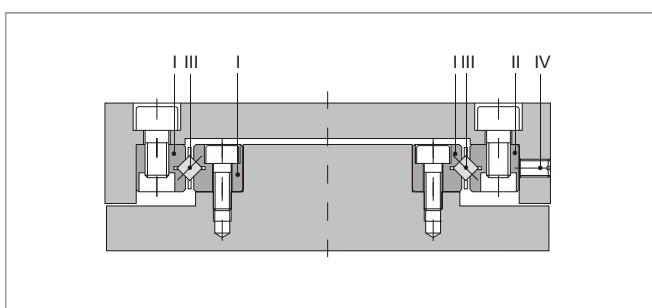

Figure 2
- During assembly, press the longitudinal guides, Figure 2 (I) against the bearing surface and tighten the fastening screws. Next, check the parallelity of the rails (I). In this case, the tolerance of the dimensions A and B, Figure 3, must not exceed the values of the run-off accuracy of the longitudinal guide.
- Mounting the longitudinal guide, Figure 2 (II): Tighten the fastening screws only lightly.
- When inserting the cages with the rolling elements, Figure 2 (III), into the prefitted longitudinal guides, particular attention must be paid to ensure that the cages do not project when the longitudinal guides are in their end position.
- For every fastening screw, insert an adjustment screw, Figure 2 (IV) into the slide section. The threaded holes should be the same size in this case. The thread size of the adjustment screw can be found in the table.
- Use the adjustment screws, Figure 2 (IV) for play-free adjustment of the guide. The play-free adjustment of the longitudinal guides can be performed more sensitively if the intrinsic weight of the slide sections is balanced out by lifting.